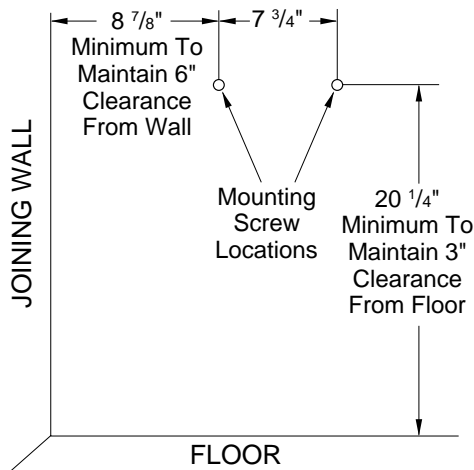

Figure 3 - Mounting Screw Locations
**WARNING:** Maintain minimum clearances shown in Figure 3. If you can, provide greater clearances from floor and joining wall.
2. Mark two mounting screw locations on wall (see Figure 3).